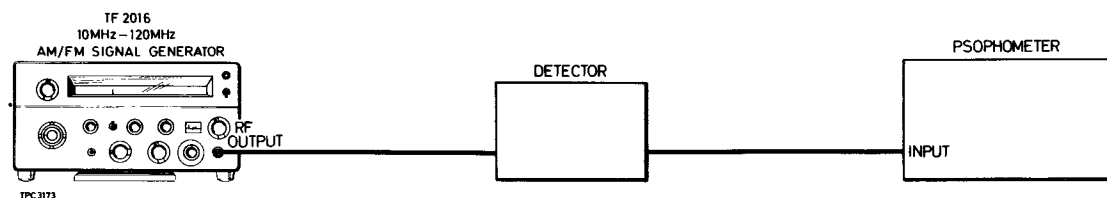

Fig. 5 Test gear arrangement to check spurious a.m. on c.w. and a.m. on f.m.
- (1) Connect the test equipment as shown in Fig. 5. Then with the FUNCTION selector at CW, the CARRIER switch at ON and TF 2016 tuned to 100 MHz check that the pointer of the MOD/CARRIER meter is within the white box.
- (2) Set the FUNCTION selector at INT AM. Then adjust the SET MOD control to position the pointer of the MOD/CARRIER meter at the centre of the white box on meter scale.
- (1) With the test equipment connected as in Fig. 5 repeat para. 26 (1) and (2).
- (2) Set the AM DEPTH control at 30% and the TF 2016 output at maximum.
- (3) Set the psophometer controls as follows :-